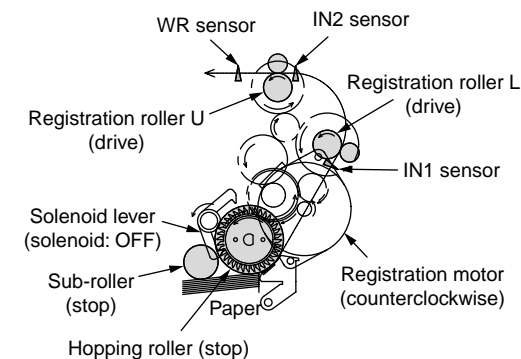

Figure 2-2
3. As shown in Figure 2-2, the solenoid is turned OFF, and the paper is carried by the registration roller L. (When the solenoid is OFF, the registration roller L is driven.)